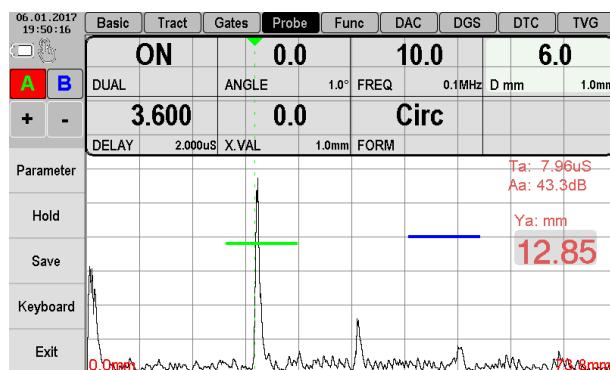
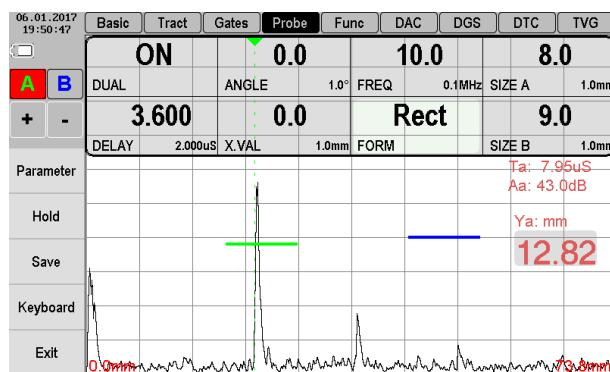

Figure 2.19 – Setting the diameter of the piezo-electric crystal plate - «FORM» parameter
Figure 2.20 – Setting the sides dimensions of the quadrangular piezo-electric crystal plate – SIDE A and SIDE B parameters
5. Form of the piezo-electric crystal plate «FORM», could be rectangular «Rect» or circle «Circ». In dependence with selected form user can input diameter of the plate (Figure 2.19), or sides dimensions (Figure 2.20). These parameters are necessary for building DGS diagrams (see p.2.4.10).